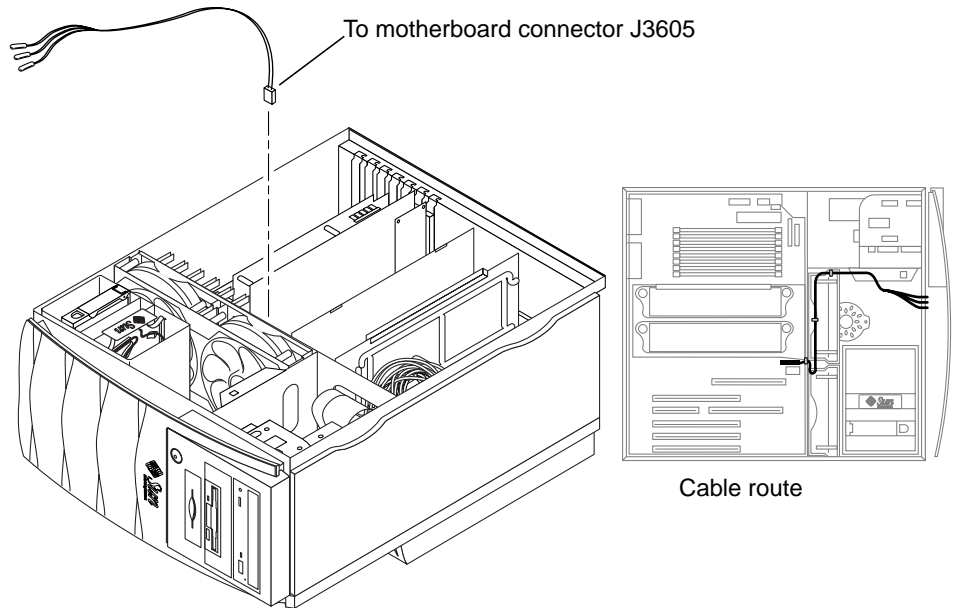

FIGURE 6-11 Removing and Replacing the Logo LED Cable Assembly
4. **Disconnect the logo LED cable assembly as follows (FIGURE 6-11):**
1. **Position the logo LED cable assembly in the chassis** (FIGURE 6-11).